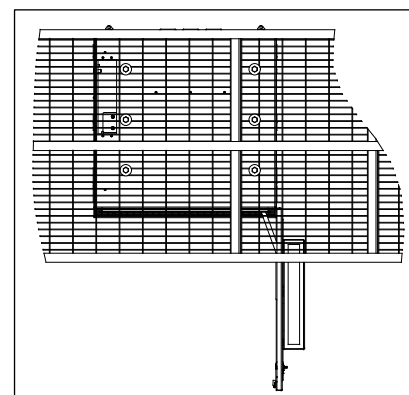

Figure 6 Installing on a Platform
8. To secure the CUBE to a steel grate platform, install 1/2” corrosion-resistant Grade 5 steel hardware through the cabinet and platform grate. Ensure that the bolts are long enough to extend past the nut on the bottom side of the platform grate. For all mounting applications, each bolted joint should have a minimum Ø1 inch fender washer on the inside of the cabinet (and underside of the platform grate for platform mounting) with a lock washer. The washer on the underside of the platform must be large enough to cover both adjacent bearing bars as shown in Figure 6.